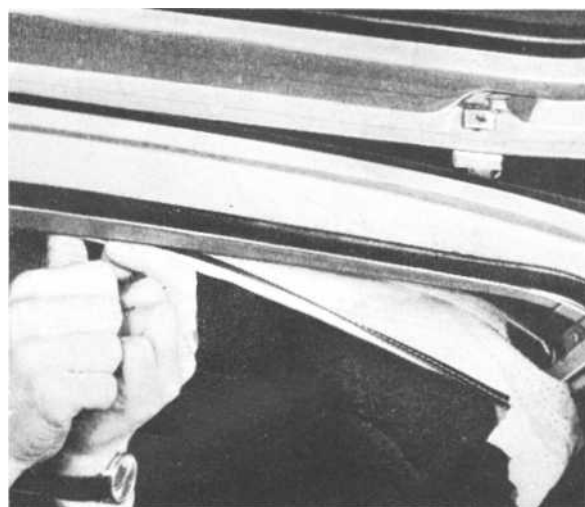
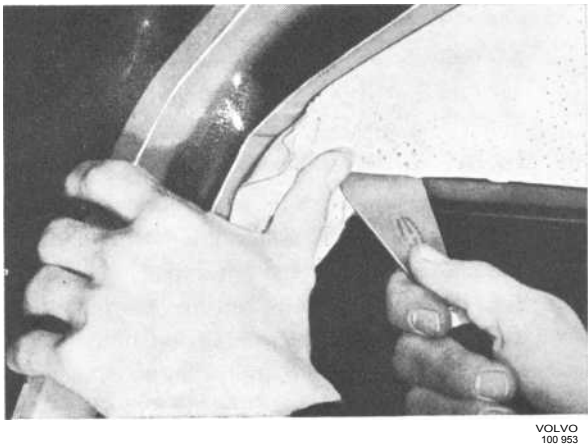

Fig. 43. Folding and fitting rear plastic strip
Fig. 44. Fitting headlining fabric in corner
2. Fold the plastic strip for the headlining as shown in Fig. 43 and press it up into position with the help of the putty knife. Attach the fabric at the corners as shown in Fig. 44.